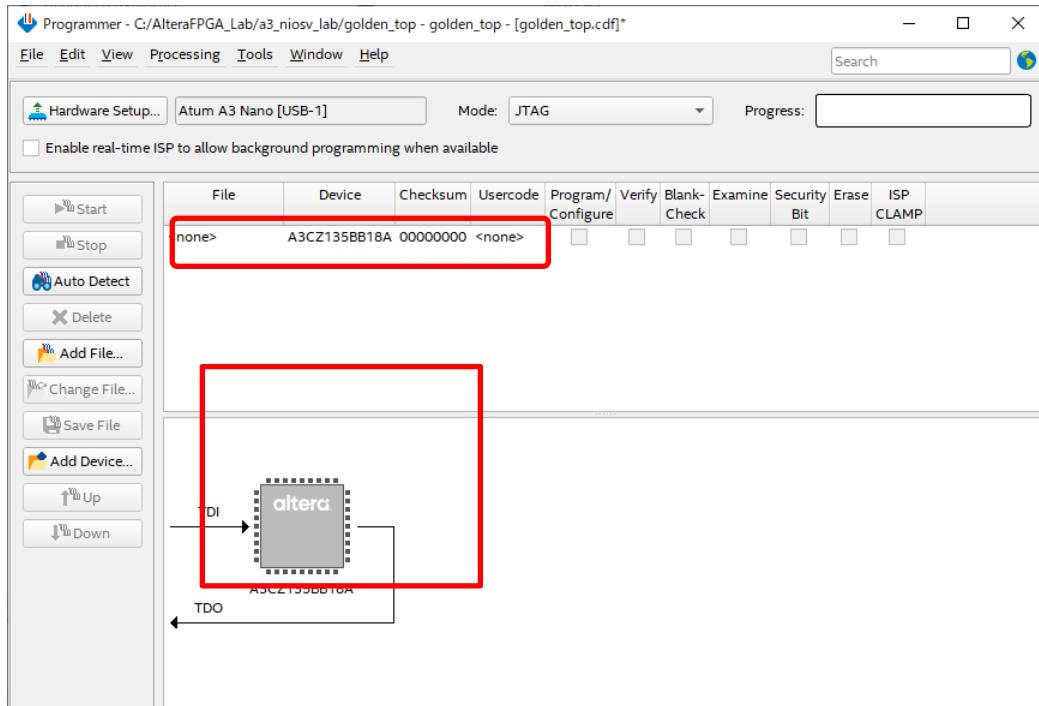

Figure 50 Display after Auto Detect
- If you try clicking the **Auto Detect** button several times and it does not look like Figure 50, please consult your instructor.